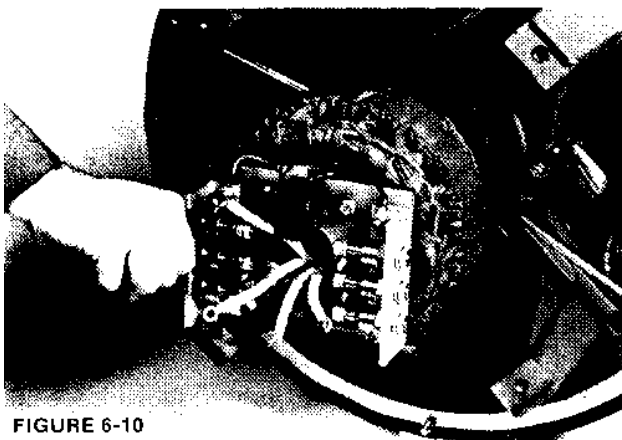

FIGURE 6-10
1. Note markings and disconnect the main rotor leads coming out of the aluminum standoff plate lead hole from the rectifier aluminum angle. (Figure 6-10.)